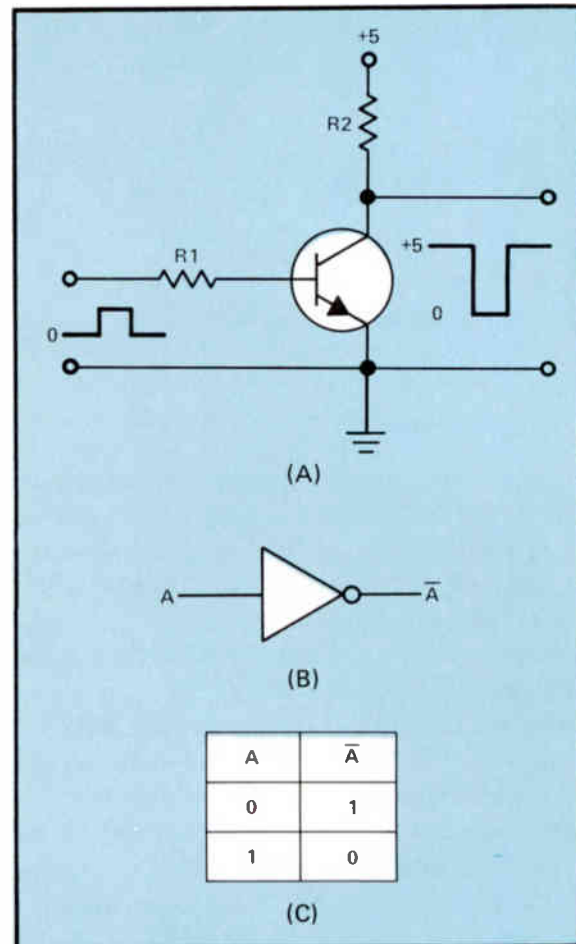

Figure 25. (A) A typical inverter circuit, and (B) its symbol. (C) A logic table.
The schematic diagram of an inverter used with positive logic is shown in Fig.25(A). The inverter does exactly what the name implies: it inverts the signal. When the input is zero, the transistor will not conduct because there is no forward bias across the emitter-base junction. The output will be +5 as shown. When the input swings positive, the transistor will saturate and practically the entire 5 volts will be dropped across R_2 so that the output voltage will drop to zero. When the input signal drops back to zero, the transistor will stop conducting and the output will climb again to +5 volts.
Figure 25(B) shows the symbol used to represent a logic inverter. The triangle represents some form of active circuit, such as a transistor, and the small circle indicates inversion. The input A is at either a 1 or a 0 binary level. The output is \bar{A} , which is read
NOT A. This means that if the input is A , the output is NOT A ; it is the inversion of A . We summarize this in a table called a *truth table*, which is shown in Fig.25(C). Where the input is zero, the output is NOT 0; it is 1. When the input is 1, the output is NOT 1; it is 0.